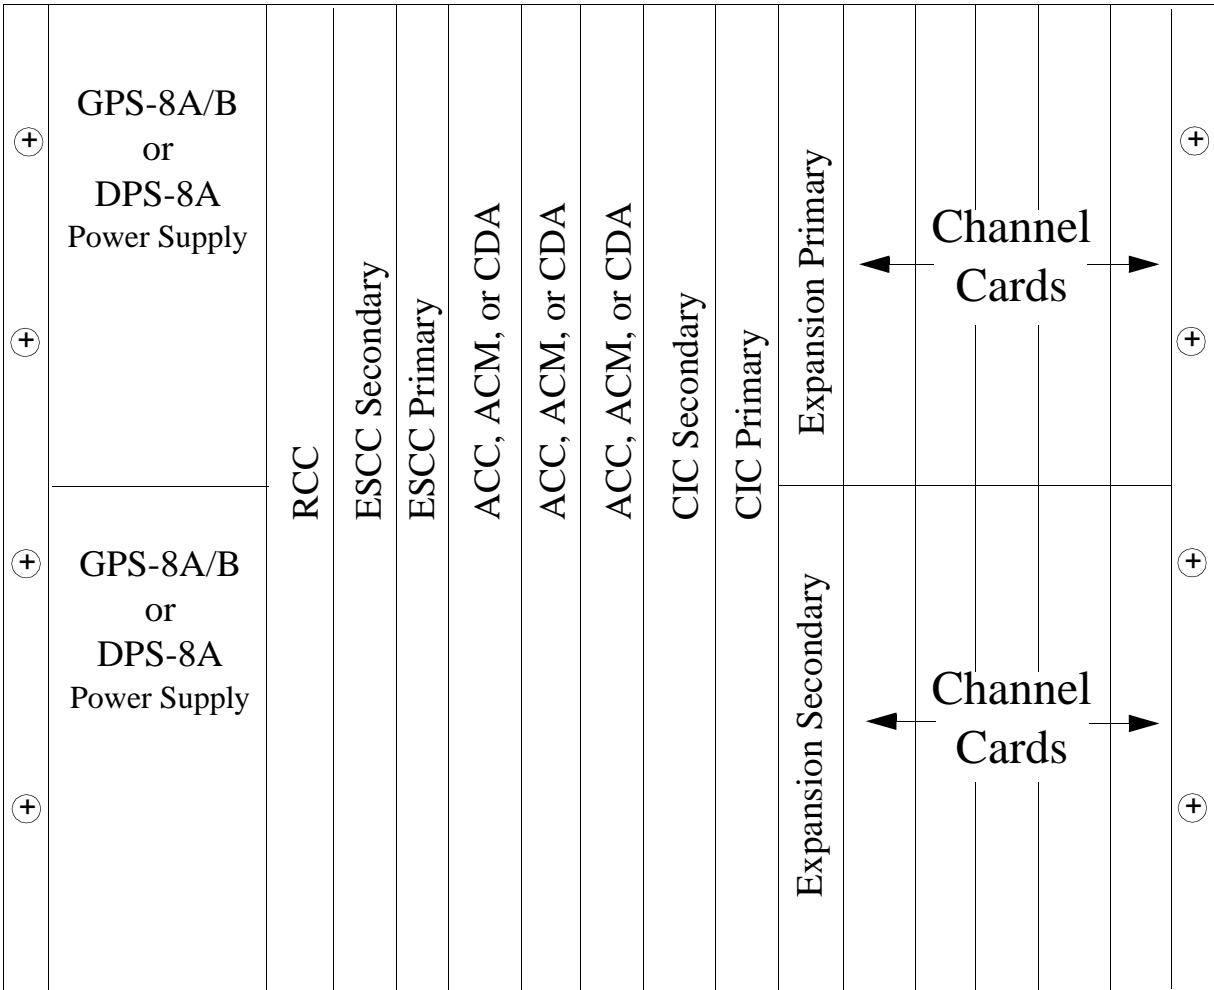

Figure 4-8 TMSC Main Shelf Slot Locations
2. Position the ESCC in the receptacle guides (top and bottom) of the slot shown in *Figure 4-8* and carefully slide the ESCC into the receptacle until it stops. Tilt the top ejector knob up and the bottom ejector knob down and gently push the ESCC into the rear connector. The knobs automatically assume their normal position.
Before you install the System Control Module make sure the Enable/Disable switch is in the Disabled position. The System Control module is installed in the slot shown earlier in *Figure 4-8*. After the module is securely mounted, place the switch in the Enable position.